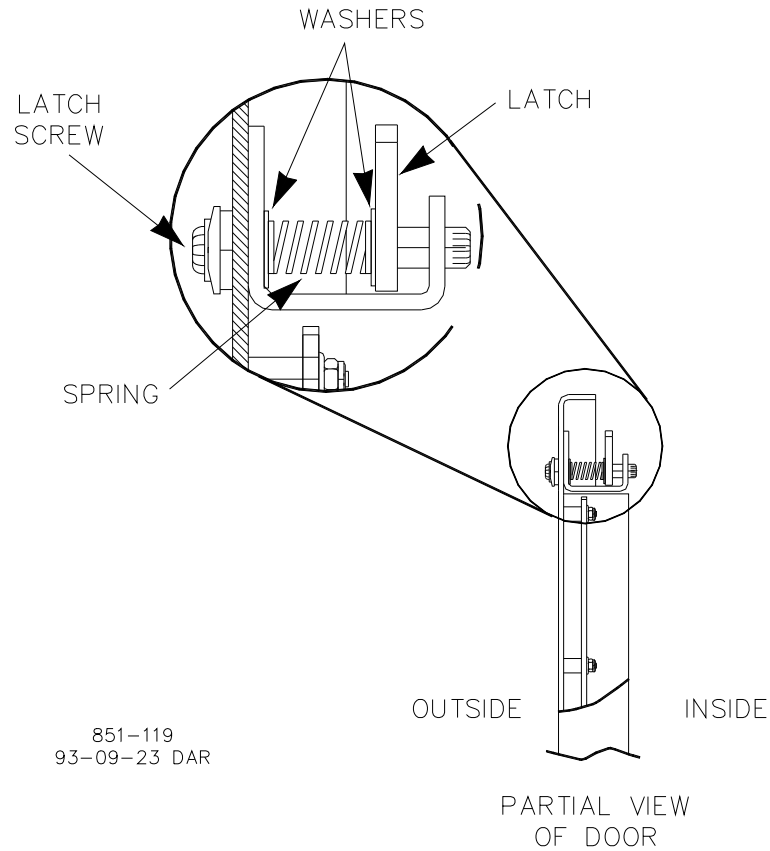

Figure 5-6. Position the Front Door Latch for Proper Latching
11. Before closing the chassis front door, turn the latch screws counterclockwise until the latch is resting on the door bracket (Figure 5-6). Close the door and turn the latch screws clockwise to tighten the latches.
15. Before closing the chassis front door, turn the latch screws counterclockwise until the latch is resting on the door bracket (Figure 5-6). Then close the door and turn all the latch screws clockwise to tighten the latches.